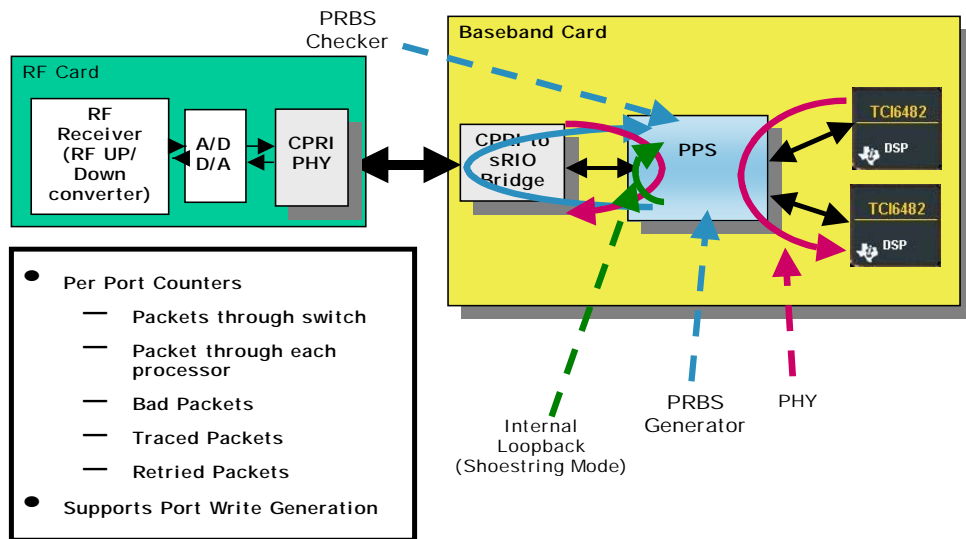

Figure 1.2 DFT Functionality
- 3) Design for Test functions: The PPS has extensive debugging features; essentially user can loop back packets anywhere in the device. This is really useful in debugging the whole basestation not just the baseband card, and will shorten development time significantly. See Figure 1.2 for more details.